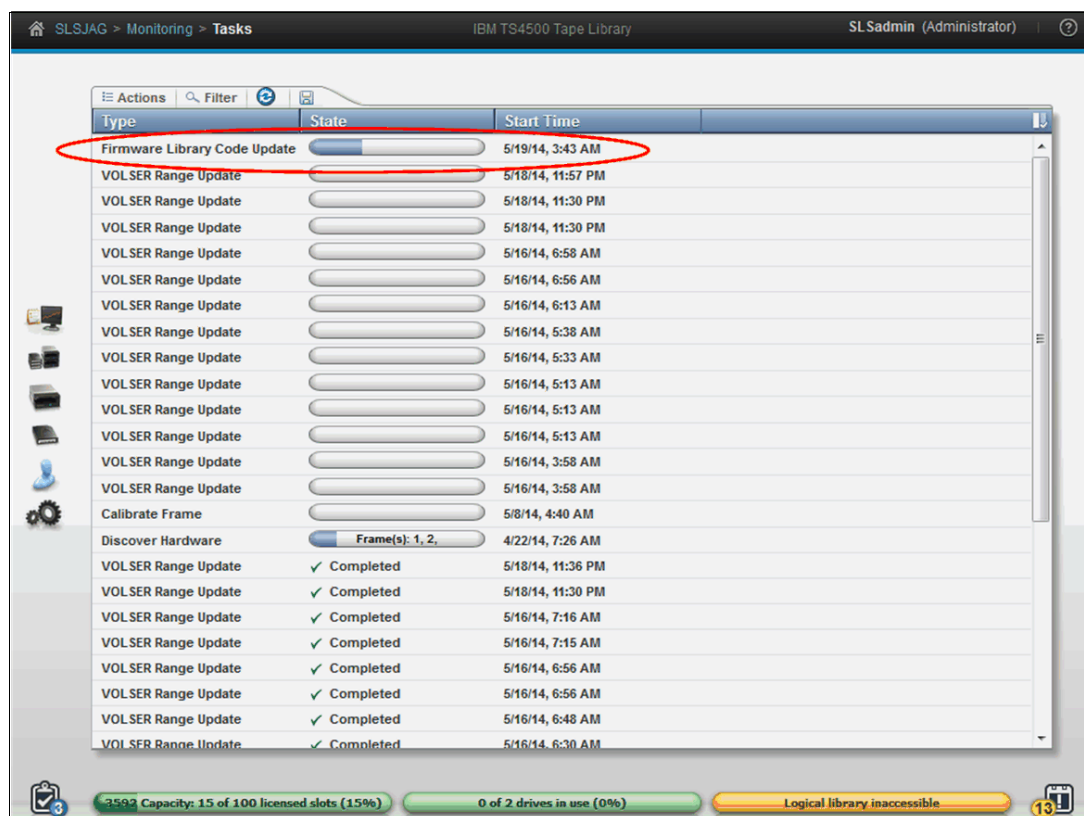

Figure 4-164 Firmware update status
- The firmware is downloaded to the TS4500 tape library first, and this download can take a few minutes. Then, the update starts and the Tasks pod, which is at the lower-left corner of the System page, indicates that the firmware update task is in progress. Monitor the status of the update from the Tasks page by selecting **Monitoring** → **Tasks**, as shown in Figure 4-164.